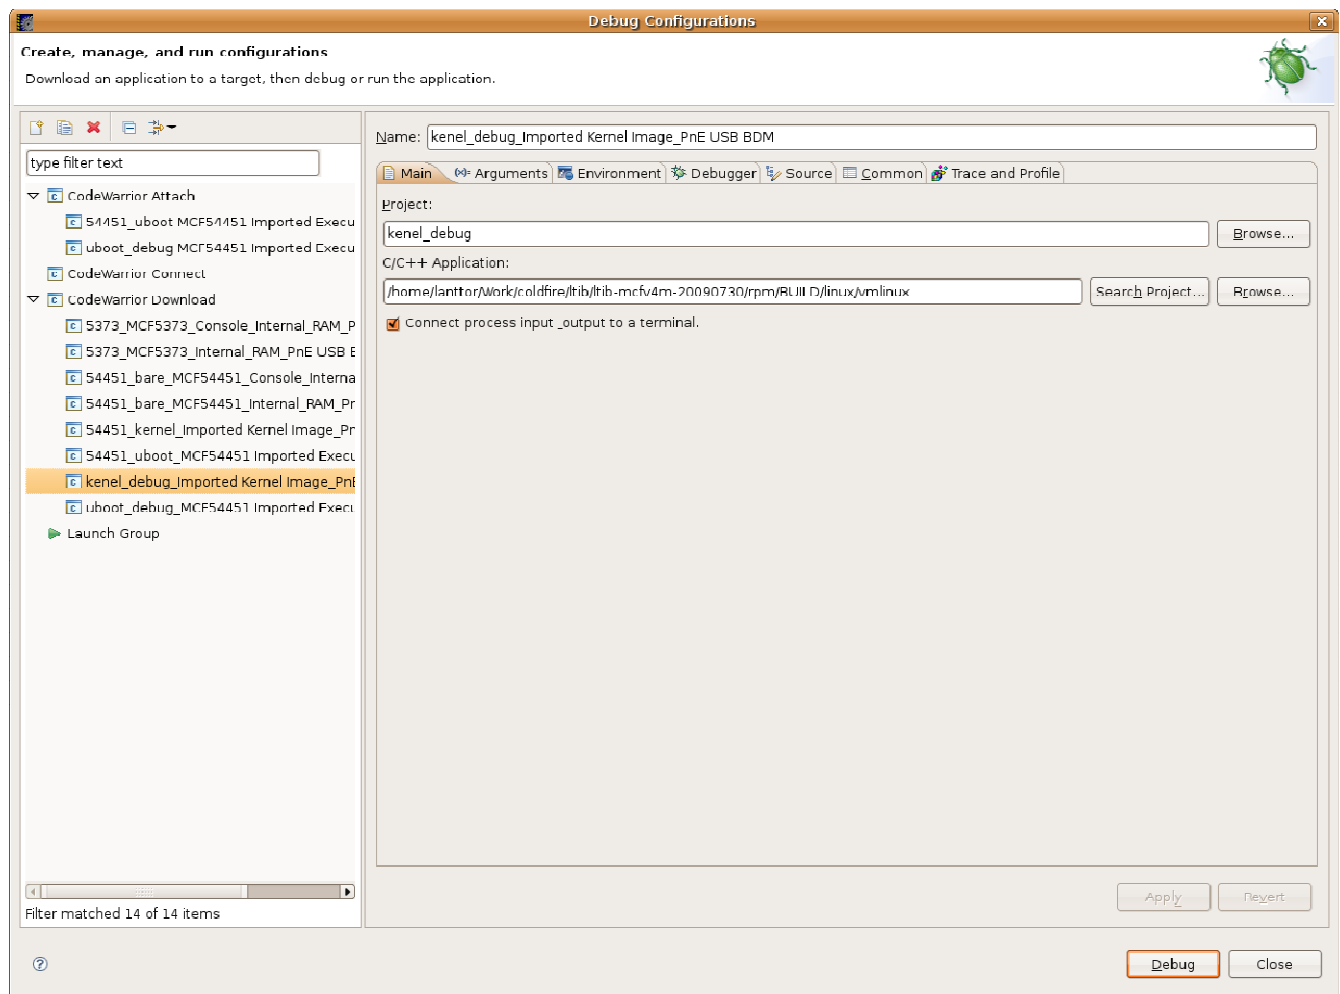

Figure-13 Debug configurations
8) Right click on the project and select **Debug As->Debug Configuration...**, The debug configuration dialog appears. Choose **kernel_debug_Imported Kernel Image_PnE USB BDM** from **CodeWarrior Download** menu. Please refer to Figure-13.